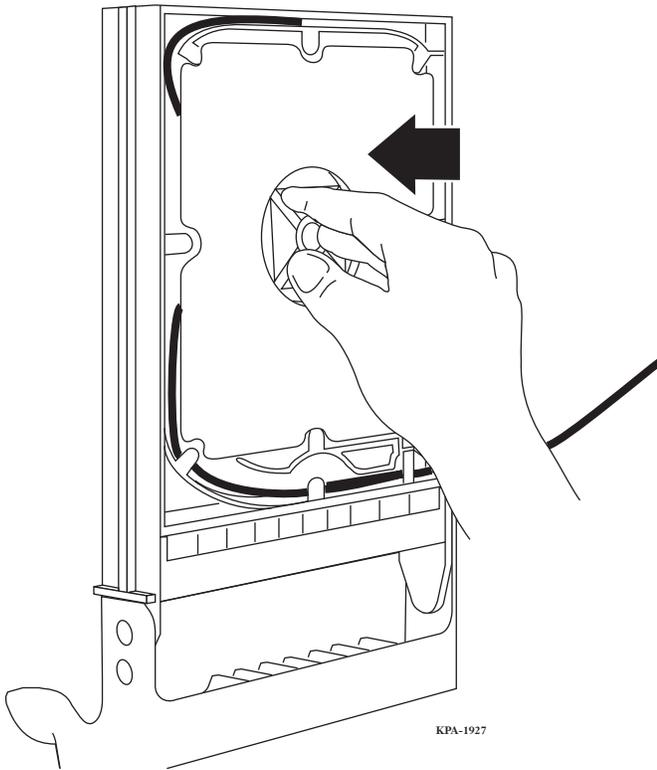

Figure 41
Step 5: Place tube under retaining latches (Figure 41).